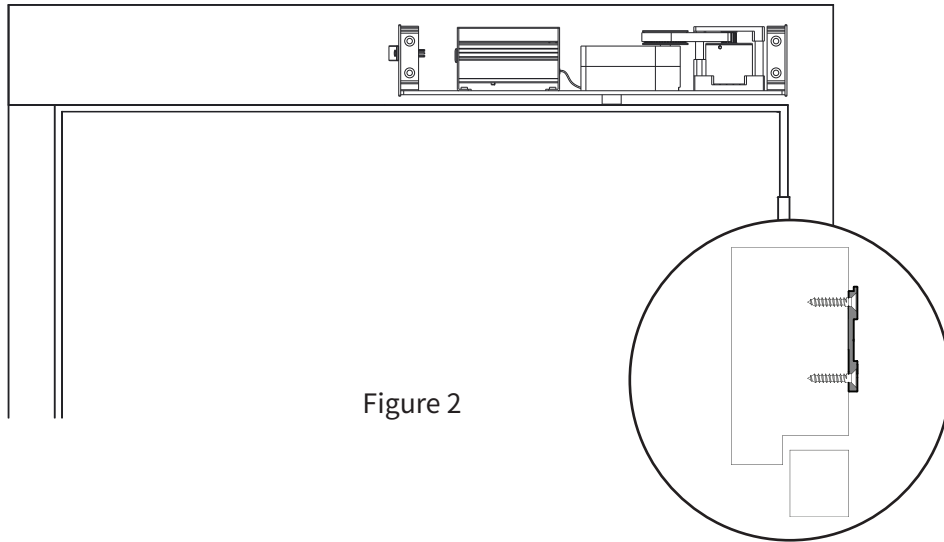

Figure 2
- Step 2: put the door opener into the door frame, align the already punched screw holes, and fix them with screws, as shown in Figure 2.